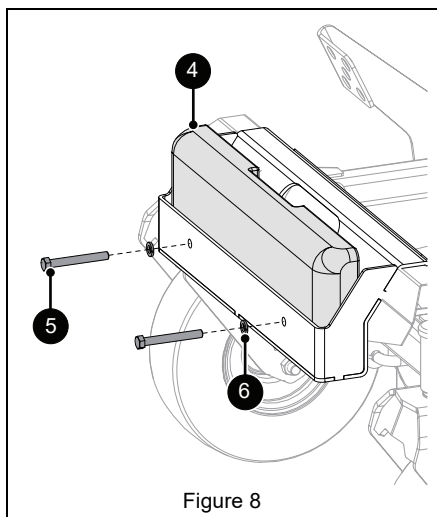

Figure 8
7. Place cast iron weight (item 4) into weight tray. Install two 3/8" x 3" hex bolts (item 5) and 3/8" lock washers (item 6) through the front of weight. Thread the bolts into the weld nuts located at the back of the tray and tighten until the lock washers engage. DO NOT overtighten bolts. See Figure 8.